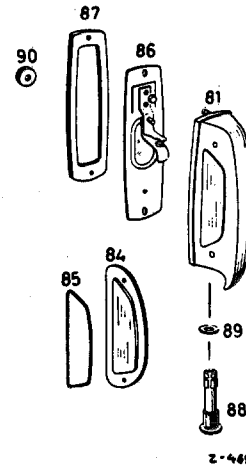

Fig. 82 — 12/1
1. Unscrew the closing plug (88) on the lower side of the license plate light and remove it together with the bulb (see Fig. 82 — 12/1).
2. Screw the closing plug, together with the bulb, into the license plate light. Do not forget the sealing ring (89) (Fig. 82 — 12/1).
3. Lift off the license plate light housing (81) and disconnect the electric cable at the back plate (86) (see Fig. 82 — 12/1).